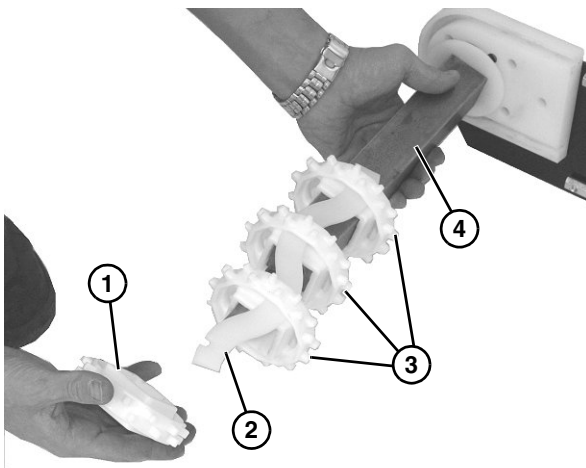

Figure 29
10. Slide entire sprocket assembly slightly outward, and remove the first sprocket (**Figure 29, item 1**) off the drive spindle and alignment bar (**Figure 29, item 2**).
11. Remove remaining sprockets (**Figure 29, item 3**) off the alignment bar as you slide entire assembly off the drive spindle (**Figure 29, item 4**).